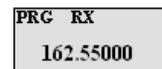

Figure 4
5. Once the Bandwidth is set, press the "FCN" key to scroll to the next programming parameter. The LCD will display "PRGRX 162.5500" for programming the **RX Frequency**. (See Figure 4) Press the "CLR" key to clear the current frequency and enter a valid VHF RX frequency and press the "ENT" key.